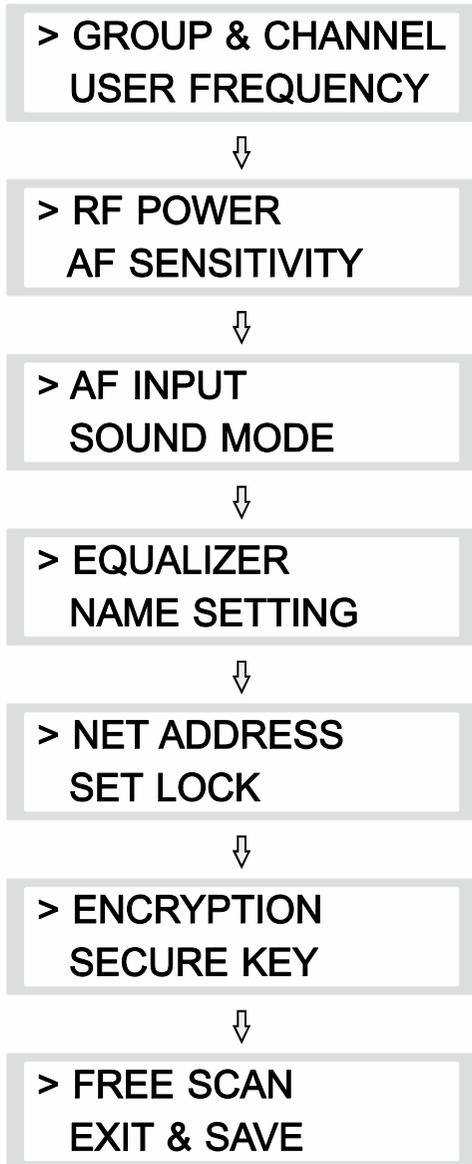

Fig. 7
- (1)  Press Rotary Control Knob.
- (2)  Turn Clockwise or Counterclockwise.
3. Listed Menus, Fig. 7: